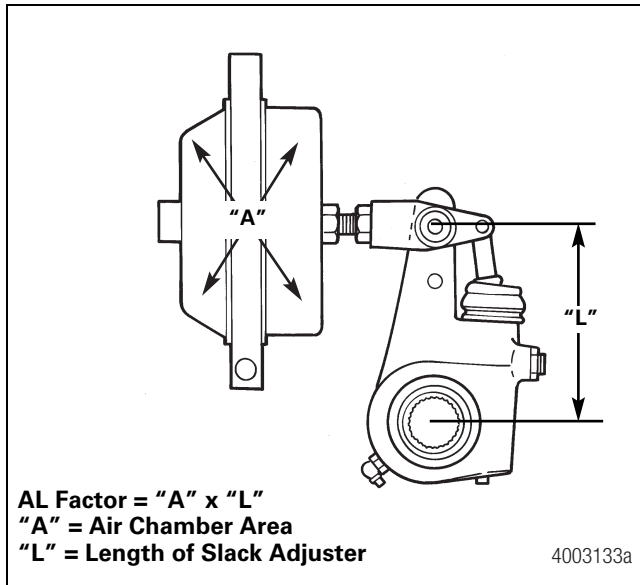

Figure 5.20
7. The "AL" factor is air chamber area multiplied by slack adjuster length. Figure 5.20. The "AL" factor must be equal for both ends of a single axle and all four ends of a tandem axle.